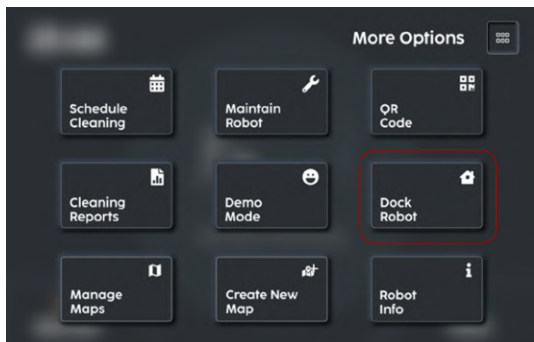

FIGURE 12-4
2. Select 'Dock Robot' (**Fig. 12-4**).
- On the touchscreen, select 'Dock Robot' (**Fig. 12-4**).